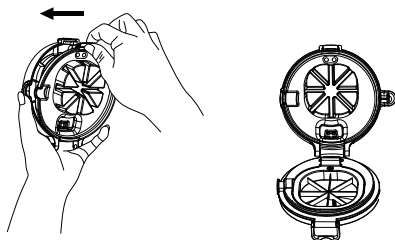

Fig.31
2. Hold the chopper seat lid assembly with your left hand, then grasp the latch handle of the chopper lid with your right hand (see Fig.31). Align the latch of the chopper lid with the corresponding slot on the chopping seat lid, press down until you hear a “click” (see Fig.31).